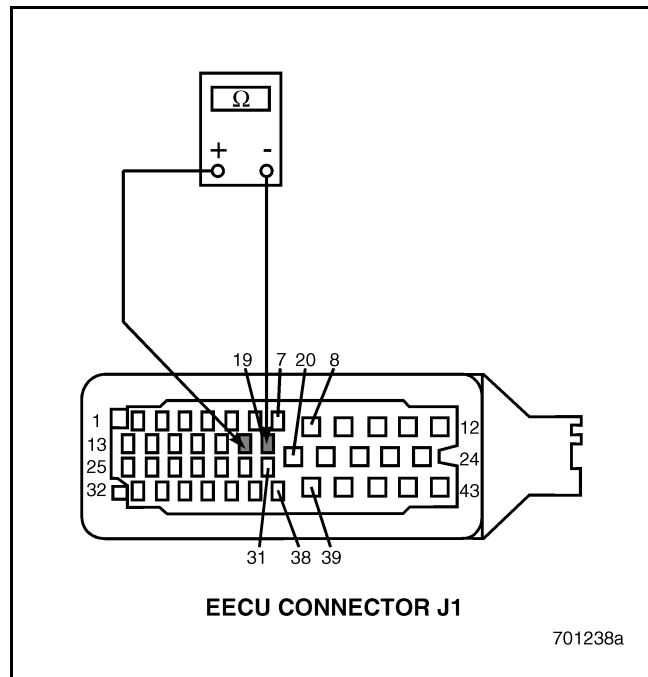

Figure 402
2. Connect the Engine Position (EP) Sensor.
4. Measure the resistance between EECU connector J1 pins 18 and 19 (see Figure 402).